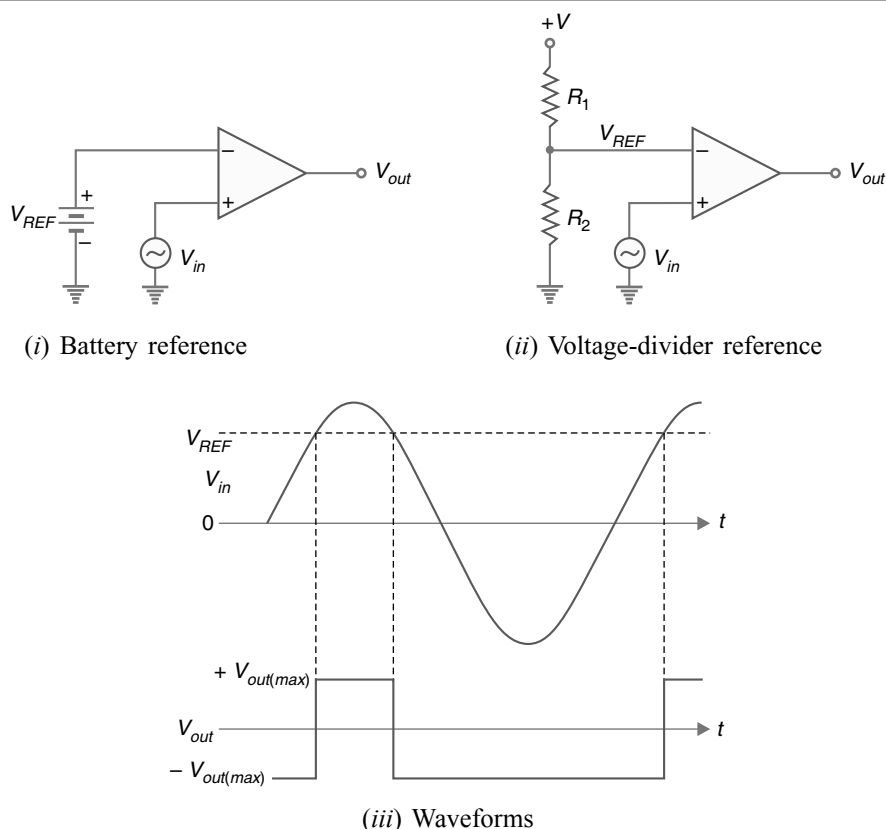

Fig. 23.96
**3. As a level detector.** When a comparator is used to compare a signal amplitude to a fixed d.c. level (reference voltage), the circuit is referred to as a level detector. We can modify zero-crossing detector circuit to construct level detector. This can be done by connecting a fixed reference voltage  $V_{REF}$  to the inverting input as shown in Fig. 23.96 (i). A more practical arrangement is shown in Fig. 23.96 (ii) using a voltage divider to set the reference voltage as follows :
The circuit action is as follows. Suppose the input signal  $v_{in}$  is a sine wave. When the input voltage is less than the reference voltage (i.e.  $V_{in} < V_{REF}$ ), the output goes to maximum negative level. It remains here until  $V_{in}$  increases above  $V_{REF}$ . When the input voltage exceeds the reference voltage (i.e.  $V_{in} > V_{REF}$ ), the output goes to its maximum positive state. It remains here until  $V_{in}$  decreases below  $V_{REF}$ . Fig. 23.96 (iii) shows the input/output waveforms. Note that this circuit is used for non zero-level detection.